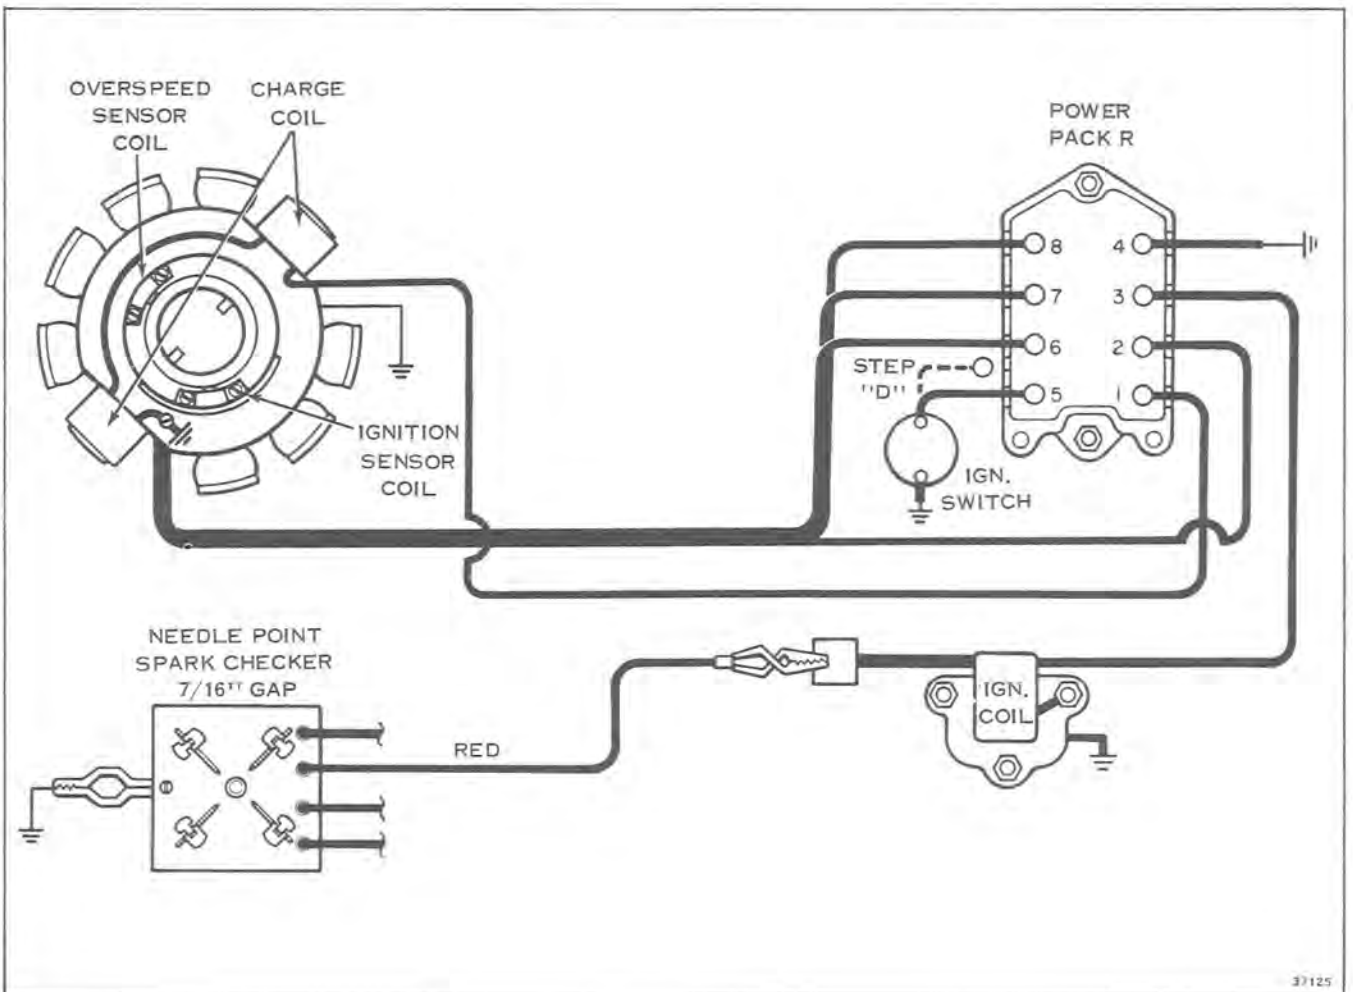

Figure 7-15
- B. Connect spark gap checker with 7/16" gap. See Figure 7-15.